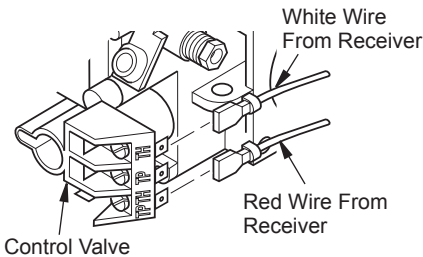

Figure 23 - Connecting Wires
- Connect wires to control valve at the TPTH and TH locations as shown in Figure 23. **Note:** Make sure excess wire does not interfere with burner or pilot.